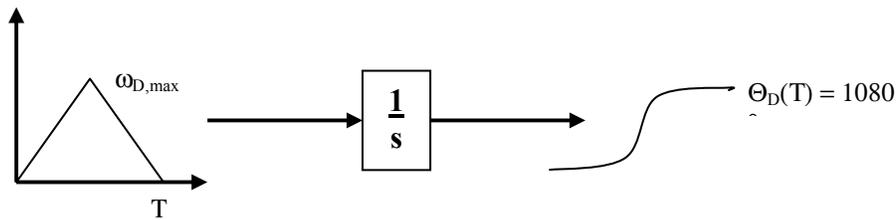

Figure 3: Velocity and Position Set point Profiles
- a) Set up the Triangle Velocity Set Point Profile you calculated in the Pre-Lab in a Simulink model. Use this Triangle as input to an integrator block as shown in Figure 3. Use a two-input scope block so you can observe both the velocity set point change and the position response on the same scope. Once you think you have the proper set-up, **ASK THE INSTRUCTOR TO CHECK IT OUT BEFORE APPLYING POWER TO THE MECHANISM**. Print this graph showing the response. Print the Simulink setup diagram.